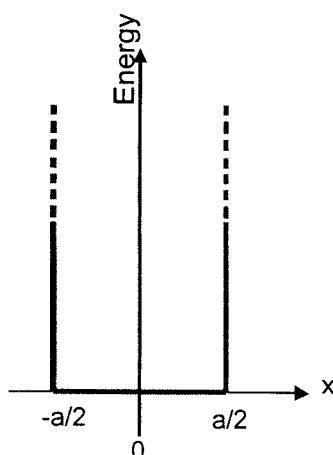

Figure 6.1: Quantum well with infinite potential barriers
- a) Consider the situation of an infinitely deep quantum well, as shown in Figure 6.1.